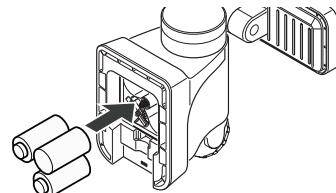

Figure 6
- Install three, 1.5V "C" batteries (not included) into the battery compartment (see Figure 6). Make sure the polarity of the batteries is correct. Replace the battery compartment cover.